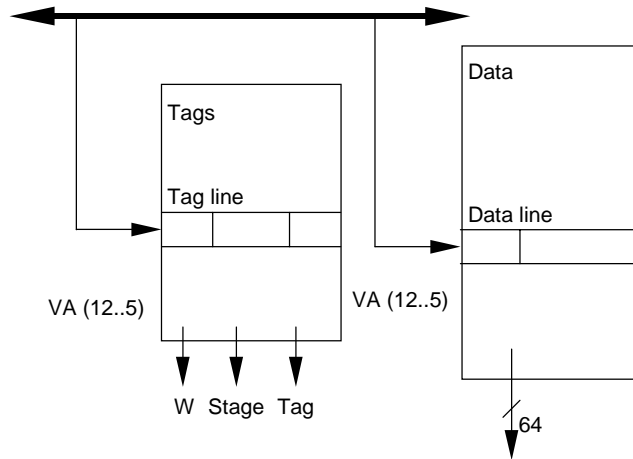

Figure 5.4.1 Primary Cache Data and Tag Organization
Figure 5.4.1 shows the virtual address (VA) index to the primary cache. Each instruction and data cache size is 32 KB. The virtual address bits be used to index into the primary cache decided by the cache size.